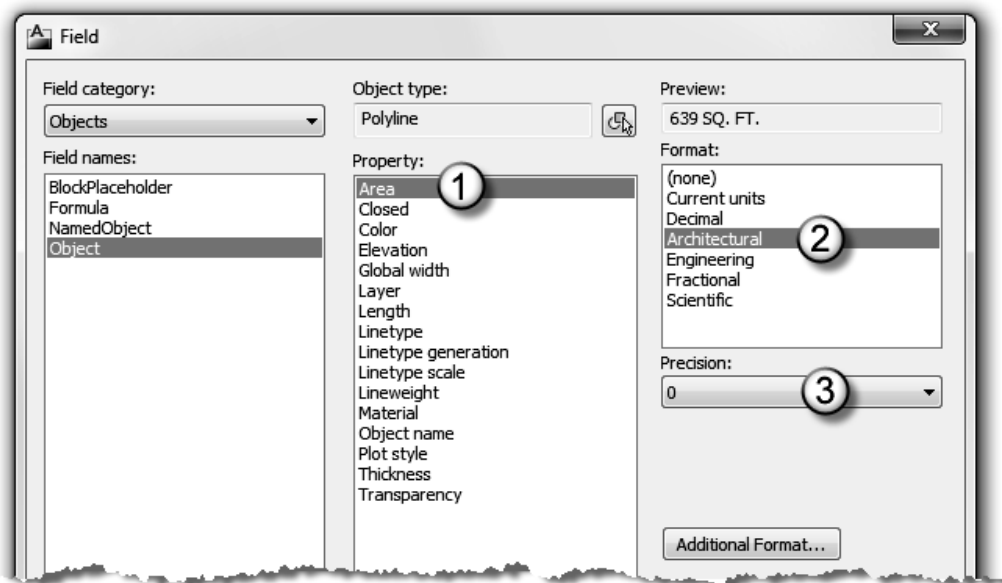

FIGURE 4-4.6 Field dialog box; polyline selected
17. Select **Architectural** under *Format* and set the *Precision* to **0**. Notice the *Preview* changes (Figure 4-4.6).